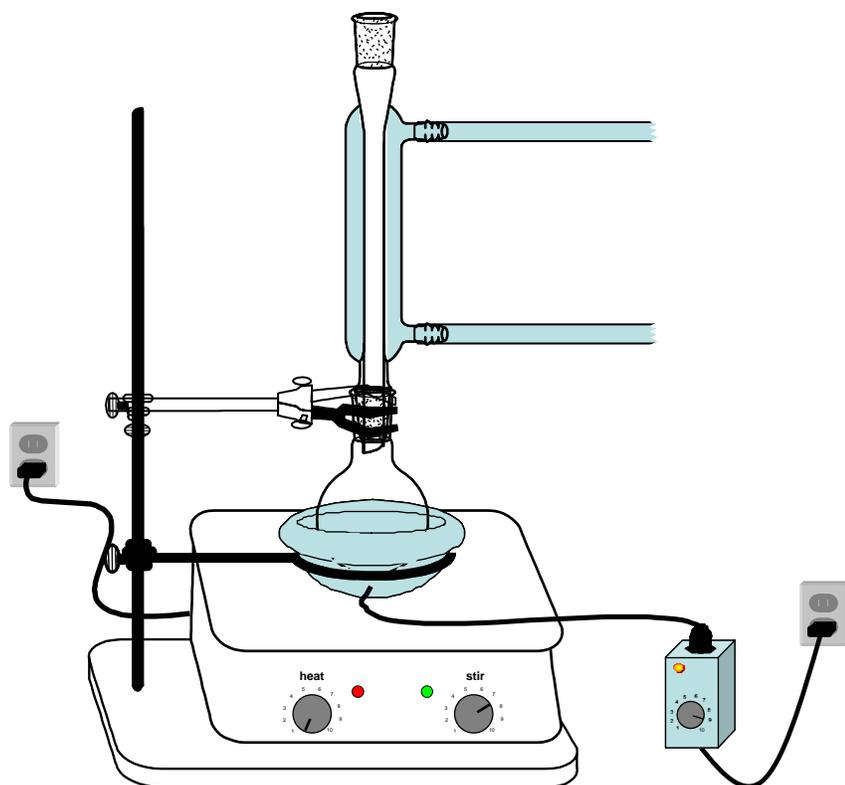

Figure 1. Reaction under reflux.
2. Set up a micro-scale reflux apparatus (Figure 1).